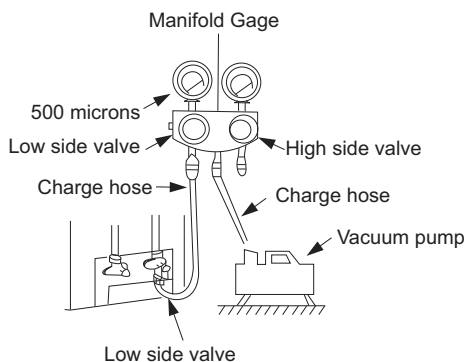

Fig. 14 — Manifold
3. Fully open the low side of the manifold gage (see Fig. 14).